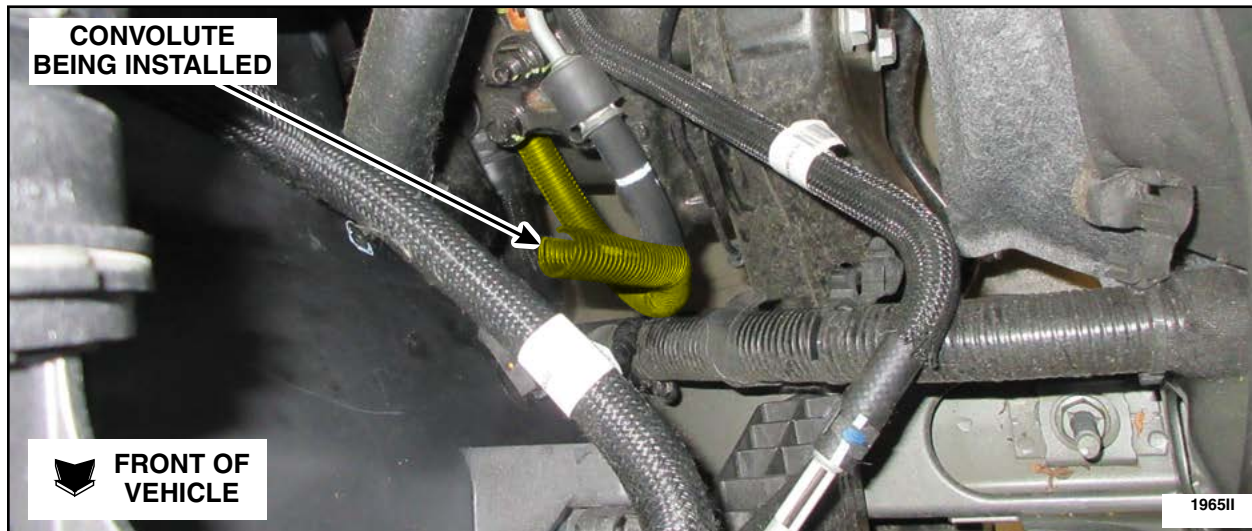

FIGURE 41
11. Install the convolute onto the power steering pressure hose. See Figure 41.